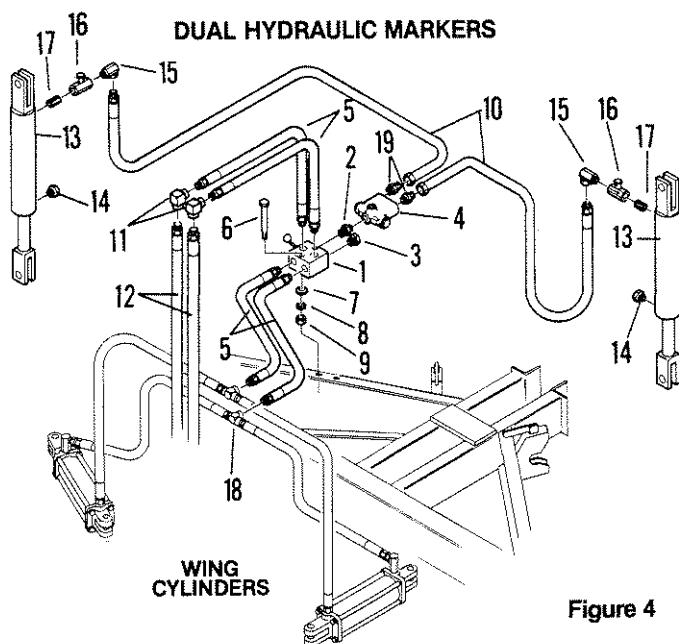

Figure 4
1. Assemble Double Selector Valve (1), $\frac{3}{4}$ " Connection Fitting (2), square head Pipe Plug (3) and Sequencing Valve (4) together as shown in figure 4.
2. Detach existing tractor hoses (12) from wing cylinder tees (18). Assemble hoses and fittings as shown in figure 4. Reattach tractor hoses to 90° elbows (11).
3. Attach the assembled Double Selector Valve (1) to the top rail of the main frame side brace using $\frac{3}{8}$ " hex bolts, flatwashers, lockwashers and hex nuts.